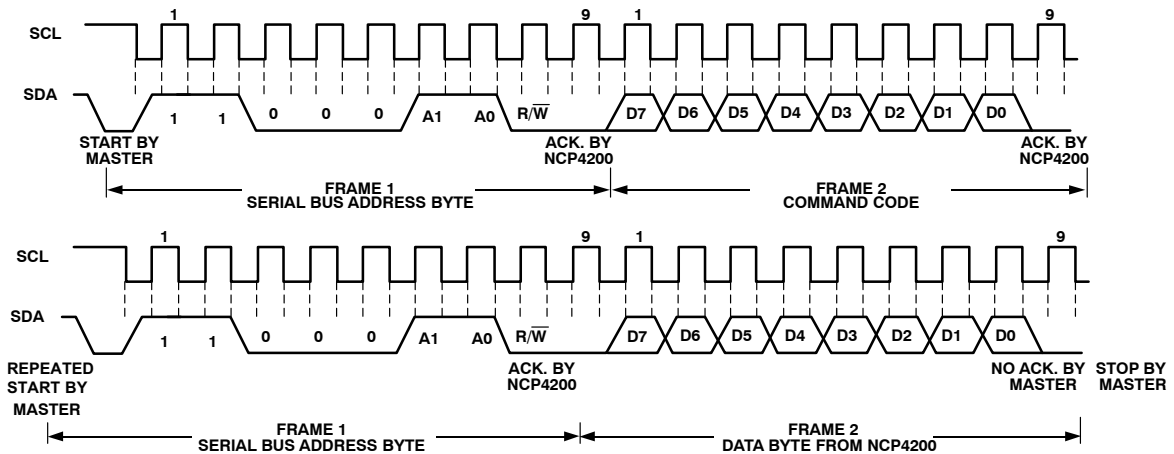

Figure 13. Read Byte
1. The read byte operation is shown in Figure 13. First the command code needs to be written to the NCP4200 so that the required data is sent back. This is done by performing a write to the NCP4200 as before, but only the data byte containing the register address is sent, because no data is written to the register. A repeated start is then issued and a read operation is then performed consisting of the serial bus address;  $R/\overline{W}$  bit set to 1, followed by the data byte read from the data register.